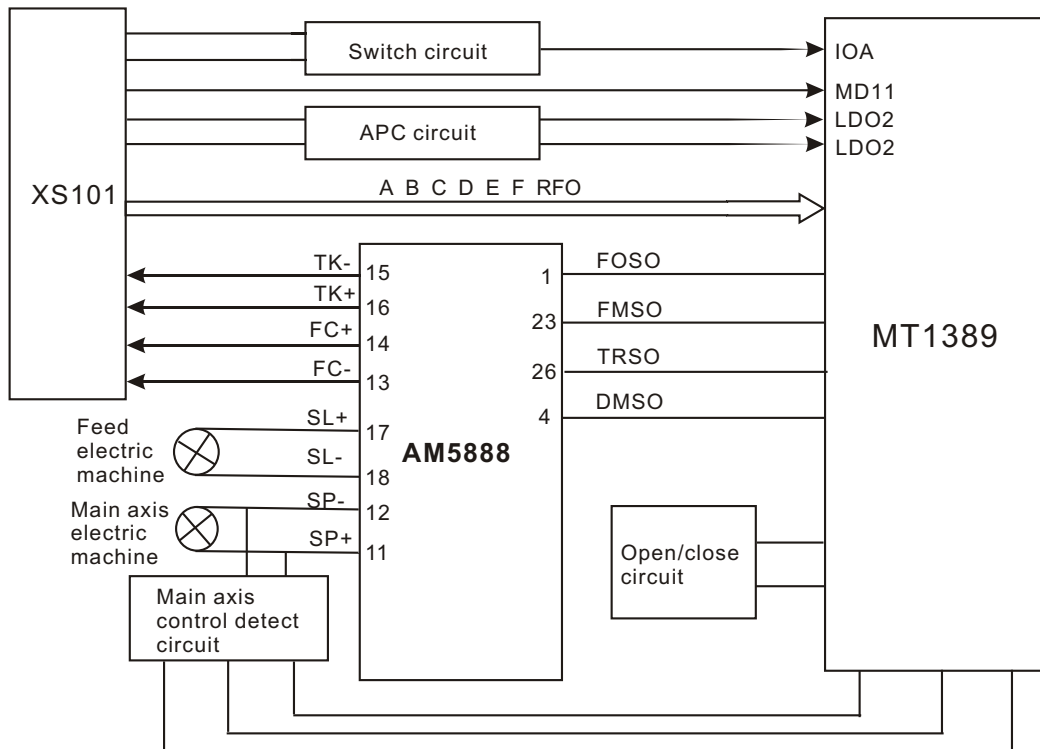

Figure 3.2.2.1 Servo circuit block diagram
1. Servo system of this player adopts SANYO 65 loader and MTK decode solution (MT1389HD+FLASH (16M) +SDRAM (64M)), and its servo circuit is mainly composed of front end signal processing, digital signal processing and digital servo processing, digital signal processing IC Mt1389 and drive circuit Am58888, in which Mt1389 is also the main part of decode circuit. Servo circuit block diagram is shown in the figure 3.2.2.1: